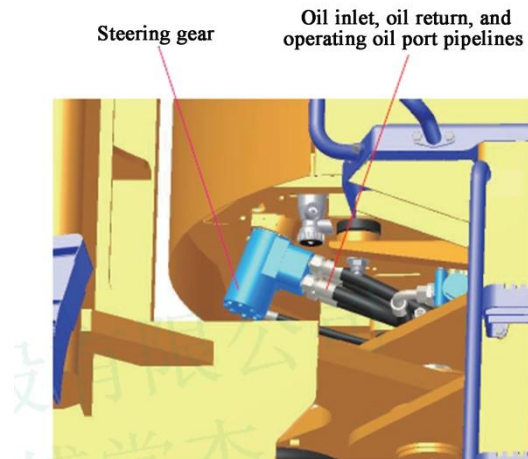
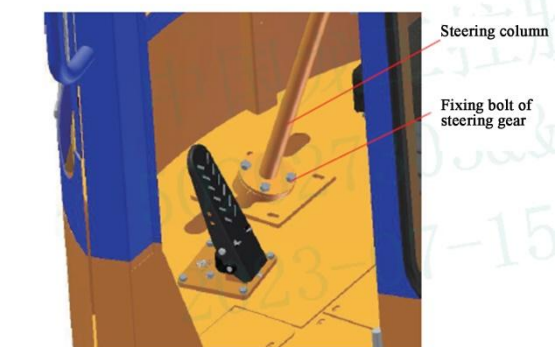
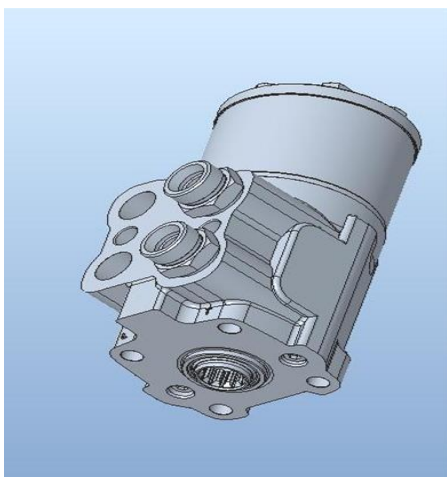

Fig. 5-11-01
Fig. 5-11-02
Fig. 5-11-03
① Release the pressure before removal, and then remove the connecting pipelines of 5 interfaces as indicated in Figure 5-11-01. The one with smaller diameter is the feedback pipeline on the side of steering gear;
② In case of oil leakage during removal, prepare an oil pan for standby; protect the oil port and mark it for reassembly;
③ Operate inside the cab in the following process: first remove the steering column cover, and then remove four M10×35 fasteners as shown in Figure 5-11-02. Meanwhile, cooperate with personnel outside to drag the steering gear (as shown in Figure 5-11-03);
① Pay attention to the assembling direction of steering gear during installation, with 4 sets of oil port ends pointing to the rear side of vehicle body;
② Check whether the connecting paper pad is in good condition, and replace it if damaged;
③ Check whether the cross connecting sleeve is installed and assembled with the flat square under the steering shaft;
④ Assemble four M10×85 bolts (with spring washers) as shown in Figure 5-11-02;
⑤ Install the steering column cover;
⑥ The following operations shall be carried out outside the cab: Install the connecting pipelines with 5 interfaces according to the instructions in Figure 5-11-01. The one with smaller diameter is the feedback pipeline on the side of the steering gear.